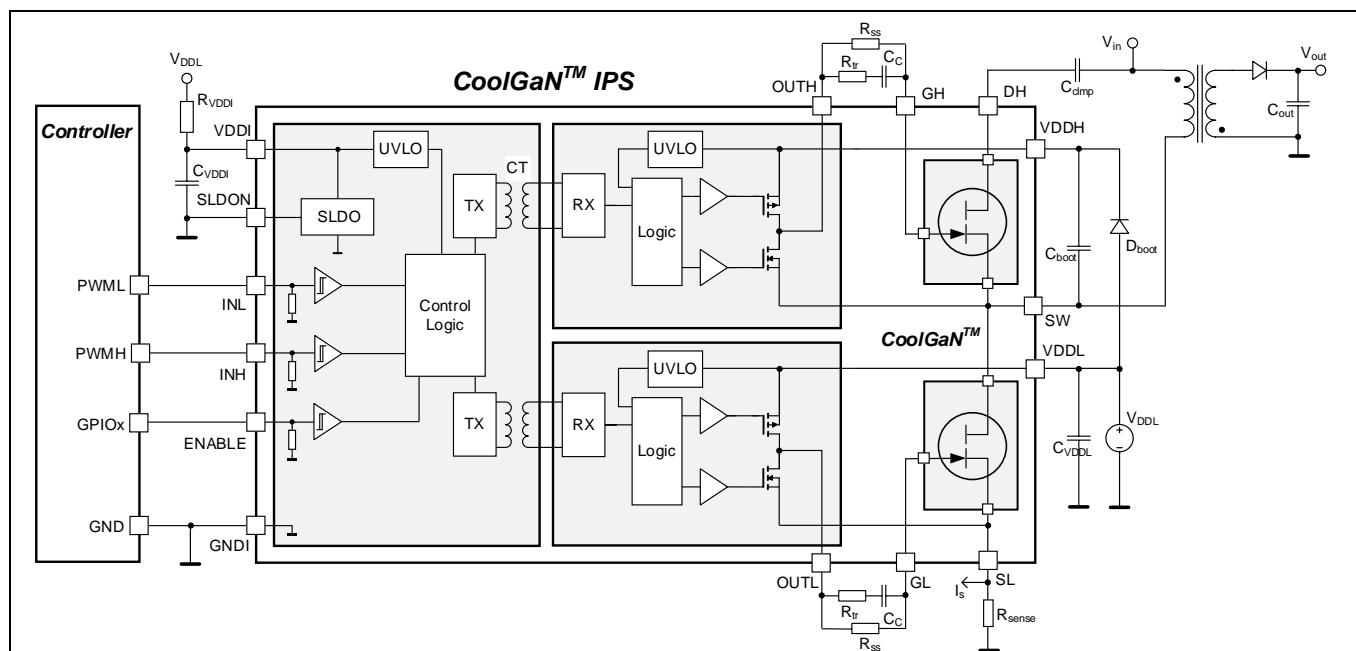
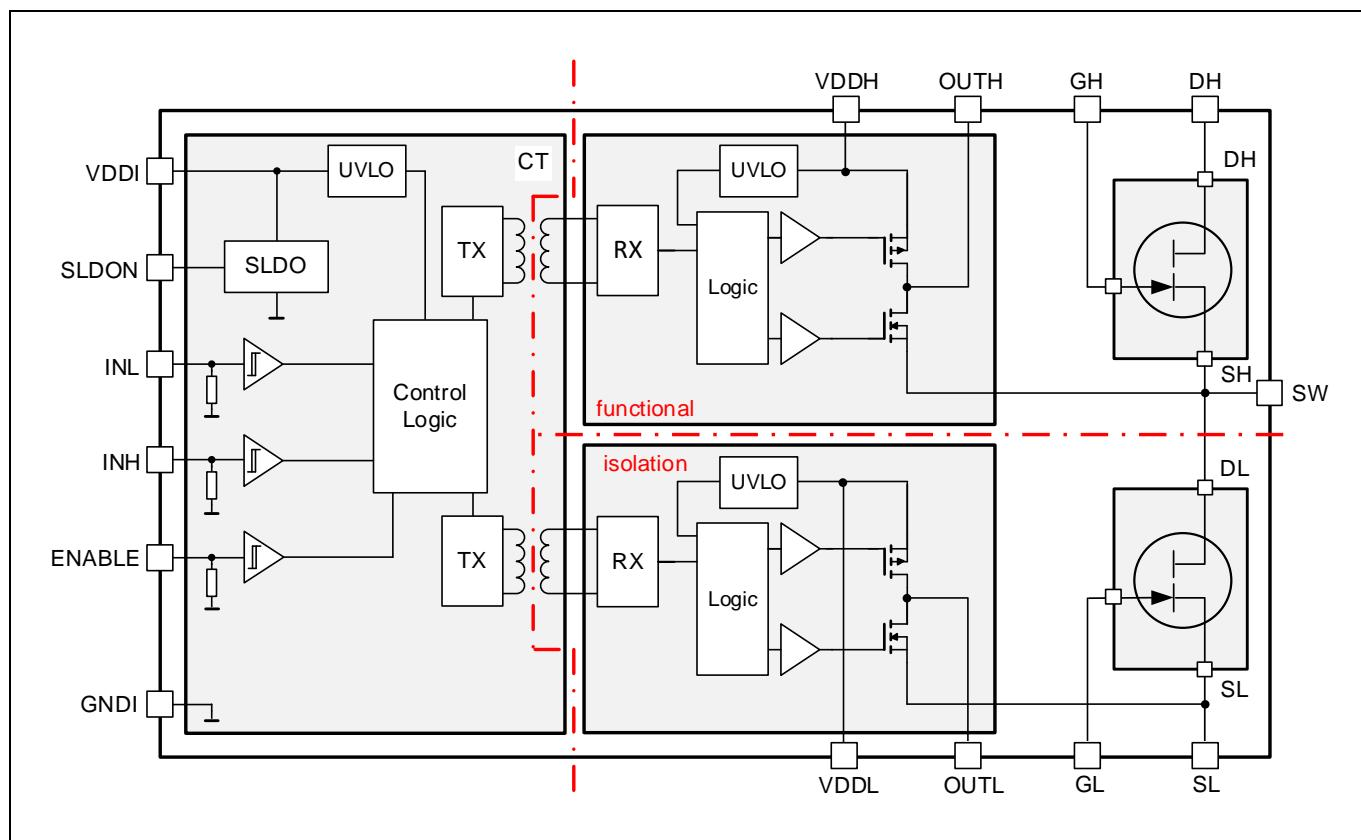

Figure 1 Typical application circuit (active clamp flyback converter)
Figure 3 Block Diagram IGI60F2727A1L
IGI60F2727A1L combines a half-bridge power stage consisting of two 270 mΩ (typ. $R_{ds(on)}$) / 600 V enhancement-mode CoolGaN™ HEMTs with dedicated gate drivers in a small 8 x 8 mm QFN-28 package. In the low-to-medium power area (example application in Figure 1) it is thus ideally suited to support the design of high-density AC/DC chargers and adapters utilizing the superior switching behavior of CoolGaN™ HEMTs.
A simplified functional block diagram of the CoolGaN™ Power Stage is given in Figure 3. For the level-shifting function of the input signal to the high-side switch an on-chip coreless transformer (CT) is utilized. For symmetry reasons a CT is also included in the low-side path, resulting in both a galvanic input-to-output and high-to-low-side isolation. In addition, this CT separates the low-side gate driver reference (SL) from GNDI allowing to use a shunt resistor for current sensing as shown in Figure 1.